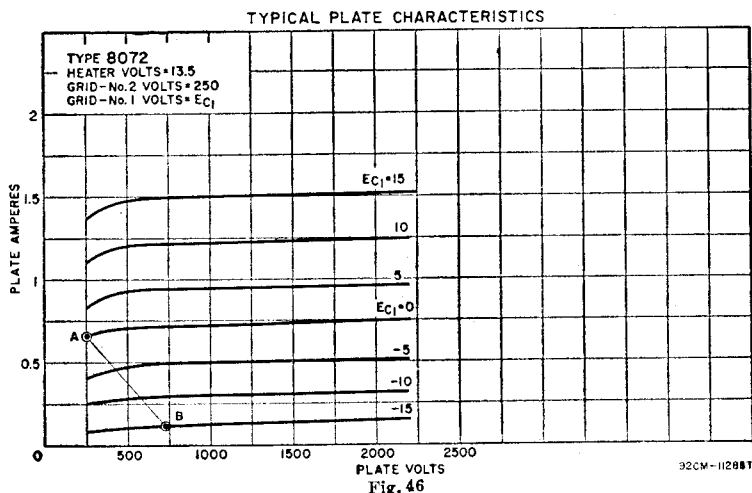
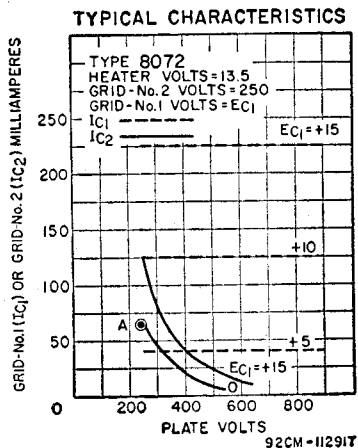

Fig. 46
Fig. 47
The operating conditions for a class AB1 linear rf amplifier used in single-sideband service can be estimated from the load line plotted on a set of plate characteristics. The typical plate and grid-No.2 characteristic curves shown in Figs. 46 and 47 are used in the following
- (3) Select a value of zero-signal plate current ( $I_{b0}$ ) between 1/6 and 1/10 of  $I_{bmax}$  found in (2). Locate  $I_{b0}$  at selected  $E_b$  and construct a load line to the point found in (2). In general, the
- (5) Determine the grid-No.1 bias ( $E_{c1}$ ) from graph at the point of zero signal found in (3).
- (6) DC plate current at peak of envelope ( $I_{be}$ ) is approximately equal to  $I_{bmax}/3$ .
- (7) Average dc plate current ( $I_b$ ) is equal to  $I_{be}/1.4$ .
- (8) Determine peak grid-No.2 current ( $I_{c2max}$ ) from Fig. 47 at conditions in (2).
- (9) DC grid-No.2 current at peak of envelope ( $I_{c2e}$ ) is approximately equal to  $I_{c2max}/4$ .
- (10) Average grid-No.2 current ( $I_{c2}$ ) is approximately equal to  $I_{c2e}/1.4$ .
- (11) Average grid-No.2 dissipation ( $P_{c2}$ ) is approximately equal to  $E_{c2} \times I_{c2}$ .
- (12) Peak Envelope Power input ( $P_{Ine}$ ) is equal to  $E_b \times I_{be}$ .
- (13) Peak Envelope Power output (PEP) is equal to  $(I_{bmax}/4) (E_b - E_{bmin})$ .
- (14) Average Plate Dissipation ( $P_p$ ) is equal to  $0.7 P_{Ine} - 0.5 PEP$ .
- (15) Average Power Output ( $P_o$ ) is equal to  $PEP/2$ .
- (16) Effective rf load resistance ( $R_p$ ) is equal to  $2(E_b - E_{bmin})/I_{b0}$ .
(1) The plate voltage is selected to be 700 volts; grid-No.2 voltage, 250 volts.
(2) On Fig. 46 plot the maximum-signal point at knee of  $E_{c1} = 0$  curve (point A). Read  $I_{b_{max}} = 0.65$  ampere. Locate  $E_{b_{min}}$  at 250 volts.
(4) On Fig. 46 plot the minimum-signal point at  $E_b = 700$  volts and  $I_{b_0} = 0.10$  ampere (point B).
(5) On Fig. 46 read  $E_{c1}$  at -15 volts at minimum-signal point B.
(6) Calculate:  $I_{b_e} = I_{b_{max}}/3 = 0.650/3 = 0.22$  ampere.
(7) Calculate:  $I_b = I_{b_e}/1.4 = 0.22/1.4 = 0.16$  ampere.
(8) On Fig. 47 locate point A at  $E_b = 250$  volts and  $E_{c1} > 0$  on grid-No.2 current curves. Read  $I_{c_{2max}} = 0.065$  ampere.
(9) Calculate:  $I_{c_{2e}} = I_{c_{2max}}/4 = 0.065/4 = 0.016$  ampere.
(10) Calculate:  $I_{c_2} = I_{c_{2e}}/1.4 = 0.016/1.4 = 0.011$  ampere.
(11) Calculate:  $P_{c_2} = E_{c_2} \times I_{c_2} = 250 \times 0.011 = 2.7$  watts. Verify that grid-No.2 dissipation is within rating.
(12) Calculate:  $P_{I_{b_e}} = E_b I_{b_e} = 700 \times 0.22 = 154$  watts.
(13) Calculate:  $PEP = (I_{b_{max}}/4)(E_b - E_{b_{min}}) = (0.650/4)(700 - 250) = 73$  watts.
(14) Calculate:  $P_D = 0.7 P_{I_{b_e}} - 0.5 PEP = 0.7(154) - 0.5(73) = 71$  watts.
(15) Calculate:  $P_0 = PEP/2 = 73/2 = 36.5$  watts.
(16) Calculate:  $R_p = 2(E_b - E_{b_{min}})/I_{b_{max}} = 2(700-250)/0.65 = 1384$  ohms.